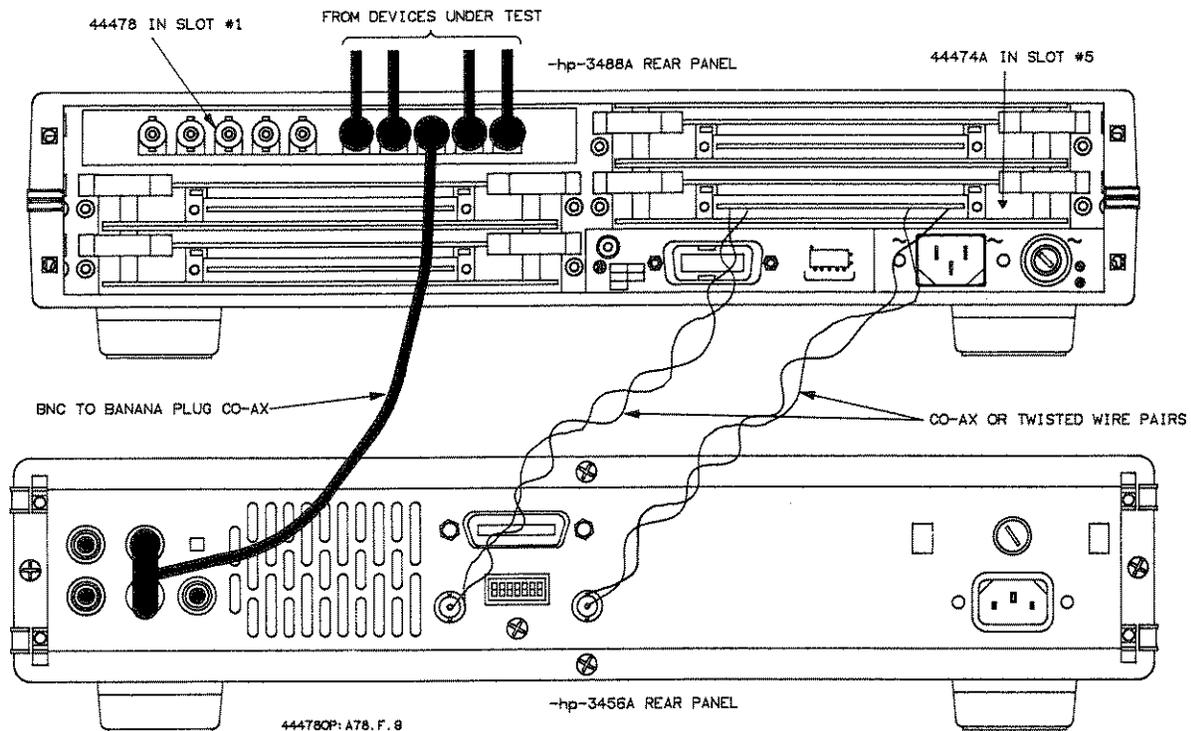

Figure 9. Typical Connections for Scanning With External Measurement Device.
Figure 9 illustrates a typical scanning application setup using an HP 44478 and the HP 44474A channel closed (CC) and external increment (EI) signals to control the scan with external measurement. More detailed information on use of CC and EI can be found in chapter 10 of the HP 3488A Operating, Programming, and Configuration Manual which describes operation of the HP 44474A.